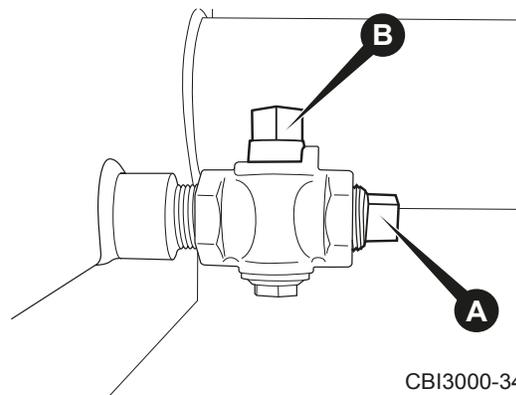

Figure 6.39 - Engine Coolant Drain Valve
3. Remove Drain Valve Plug - Remove the plug from the drain valve (Figure 6.39 / A).
4. Drain Coolant - Slowly open the drain by turning the valve handle (Figure 6.39 / B) and allow the coolant to drain into a suitable container.
6. Close Drain - Close the coolant drain valve by turning the valve handle until it is fully shut (Figure 6.39 / B). Reinstall the plug into the end of the drain valve (Figure 6.39 / A).
(13) Track Tension Inspection